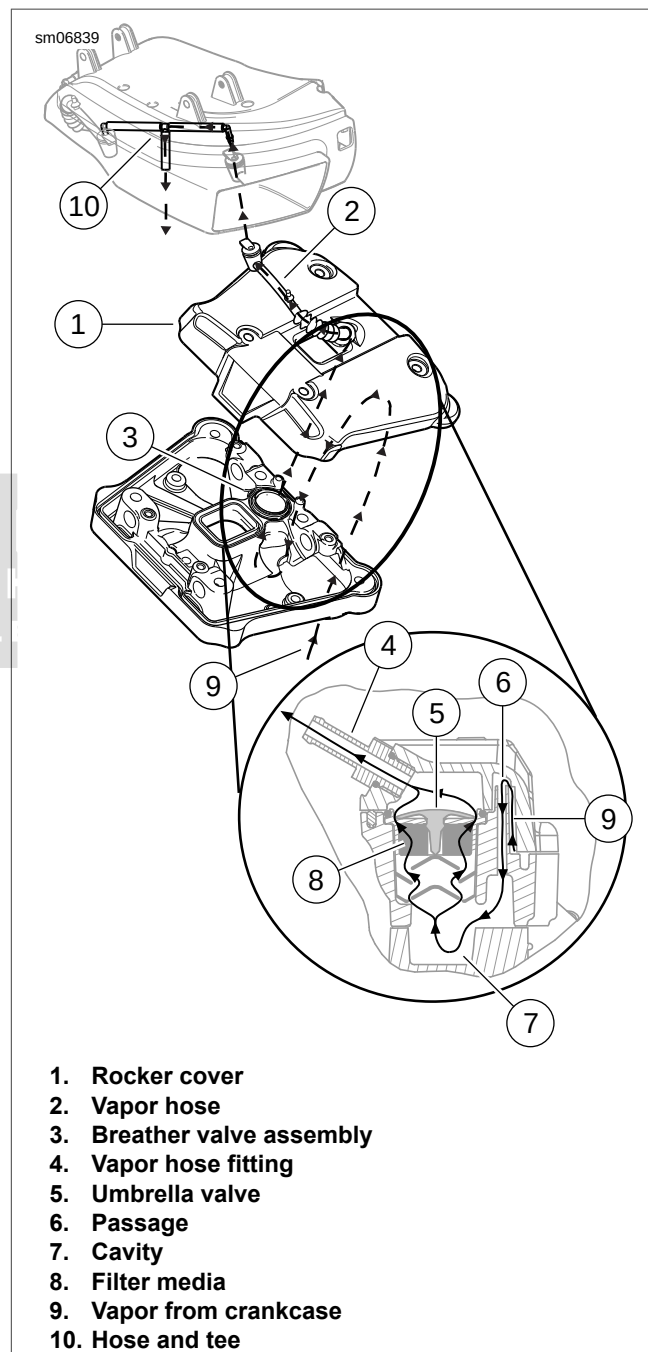

Figure 3-7. Crankcase Breathing System: XR 1200X
See Figure 3-7. During the piston downstroke, internal crankcase pressure increases. Crankcase air/oil mist (9) is forced into the area around the rocker arms and valve springs. The vapor travels through two passages (6) in the inner rocker cover. Then into a cavity (7) between the cylinder head and inner rocker cover. The vapor then moves into the filter media (8) of the breather valve assembly (3).